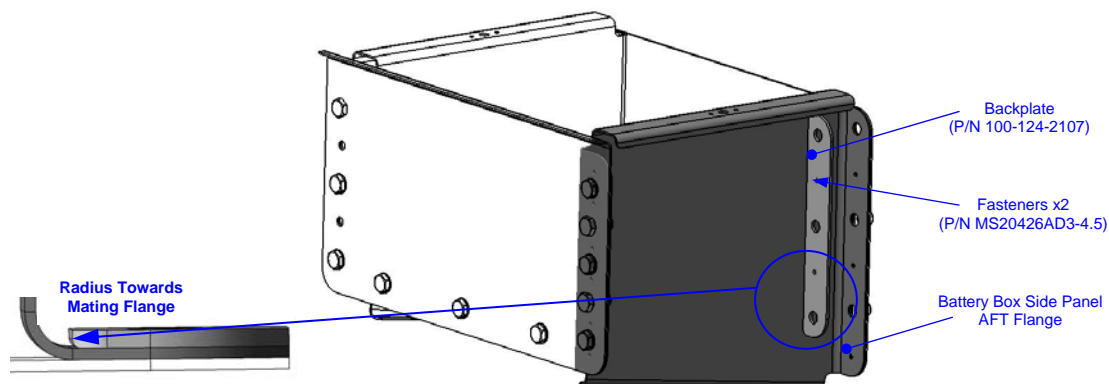

Figure 4-2: Backplate Installation
Position the backplate (P/N **100-124-2107**), ensuring that the radius on the backplate is facing toward the mating flange. Secure using two (2) **MS20426AD3-4.5** fasteners; refer to **Figure 4-2**. This installation is mirrored on the opposite side of the aircraft.